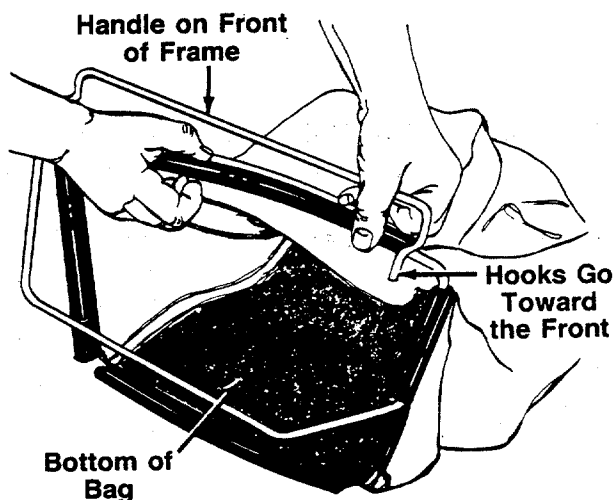

FIGURE 9.
1. Place bag over frame (black plastic side is the bottom of bag). Handle on frame goes to the top of bag. Hooks go toward the front. See figure 9.
2. Secure bag to frame by slipping plastic channels on bag over frame. See figure 9.